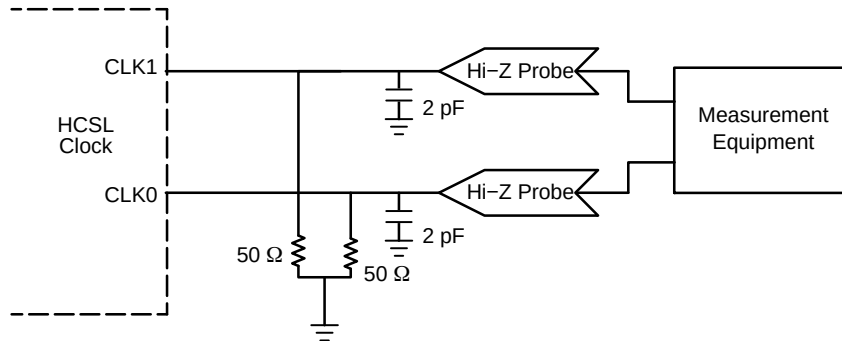

Figure 8. HCSL Parameter Measurement
8. Measurement taken with outputs terminated with R_S = 0 Ω, R_L = 50 Ω, with test load capacitance of 2 pF. See Figure 8. Guaranteed by characterization.